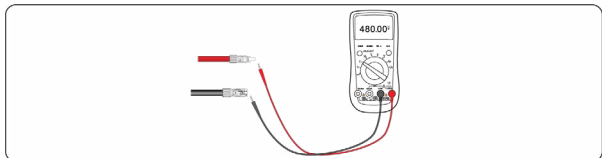

Figure 5.16 Checking the voltage of every route Strings
Step 5 Measure the voltage of every route Strings using a multimeter. Ensure that the polarities of the DC input power cables are correct, as shown in **Figure 5.16**.